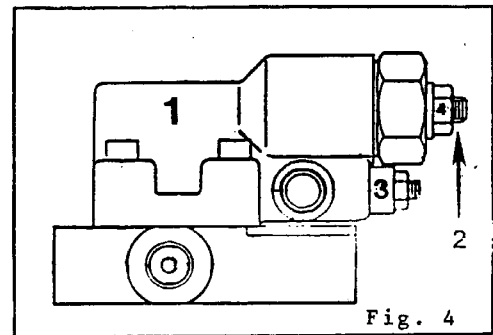

Fig. 4
1. (See fig. 4) This is called a pressure regulator, and besides having a relief valve function, this valve also senses pressure on both sides of the boom handvalves, and adjusts the output flow of the boom hydraulic pump according to how much is needed. The spec for relief setting on this valve is shown as 290 bar on the schematics, and we are going to be resetting this valve to 310 bar, using adjustment screw 2. (fig. 4) You may wish to make this change on your prints. DO NOT attempt to adjust the screw at position 3, fig. 4.
- A. At valve 1, loosen the locknut (Item 4, fig. 4), and turn in (clockwise) two full turns. This will raise the pressure at this valve much too far.